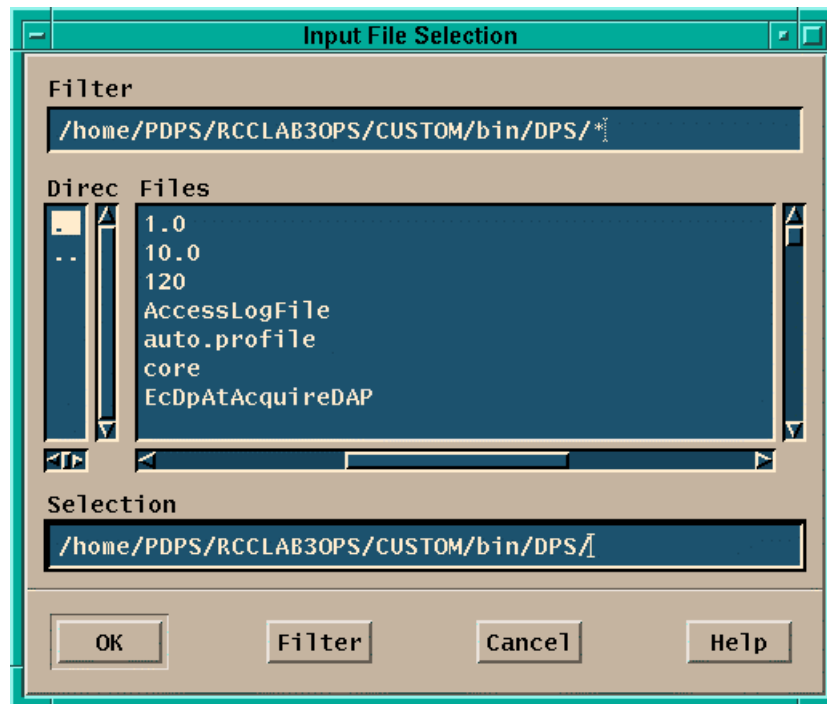

Figure 4.5.1-36. Input File Selection Pop-up
- **Batch Mode**; allows the operator to run a script including command lines for creating SSAPs. The operator is prompted to select the batch mode file using the **Input File Selection** screen, shown in Figure 4.5.1-36.
A toolbar at the top of the screen shows the name of the **Current SSAP** and the **Current SSAP File Type**, shown in Figure 4.5.1-35.